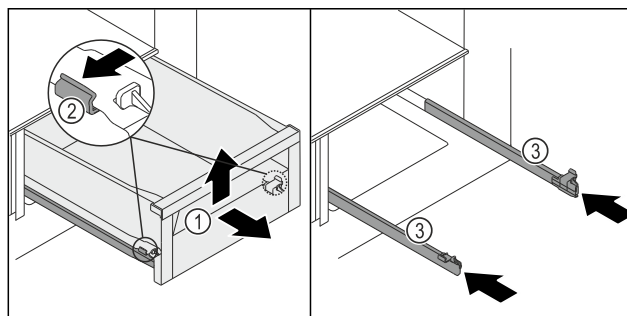

Fig. 170
- Pull the drawer Fig. 170 (1) out as far as it will go.
- Press the left and right clamps Fig. 170 (2) on the rails slightly outwards at the same time.
- Drawer Fig. 170 (1) detaches from the rails.
- Lift up the drawer Fig. 170 (1) forwards.
- Remove the drawer Fig. 170 (1) forwards.
- Push in the rails Fig. 170 (3).